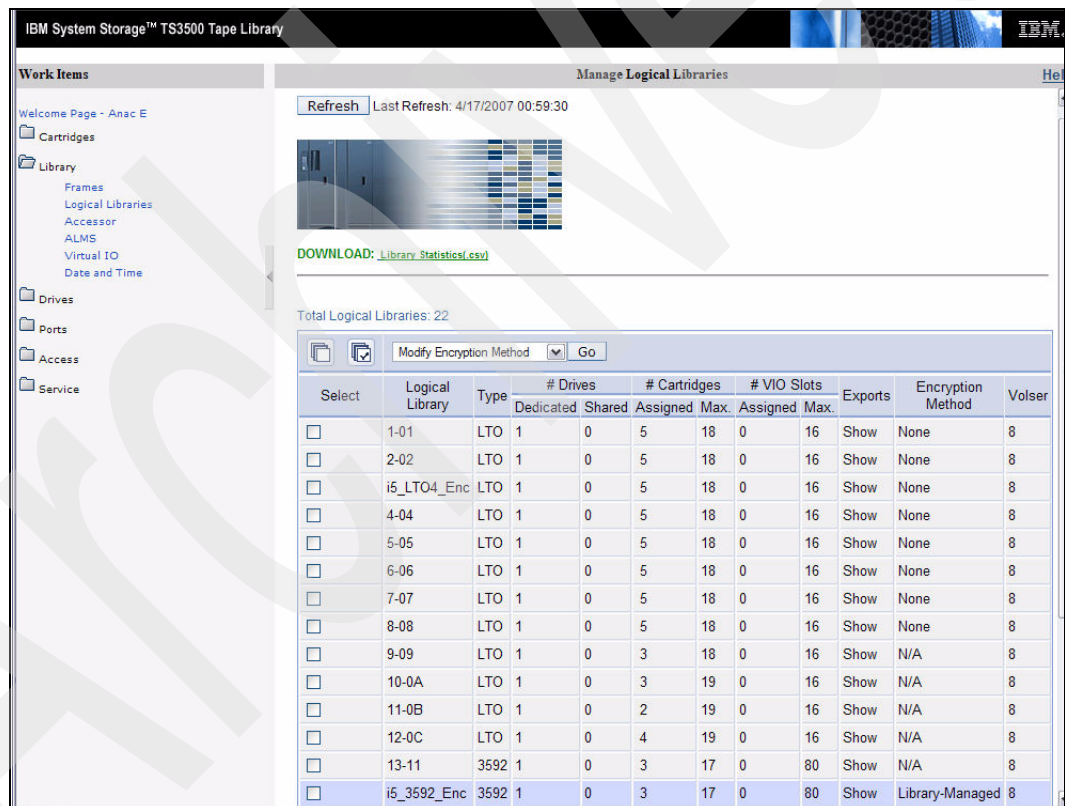

Figure 7-32 IBM UltraScalable Specialist - Manage Logical Libraries screen
- The automatically refreshed “Manage Logical Libraries” screen shows the enabled *Library-Managed Encryption* method for the changed logical library (Figure 7-32).